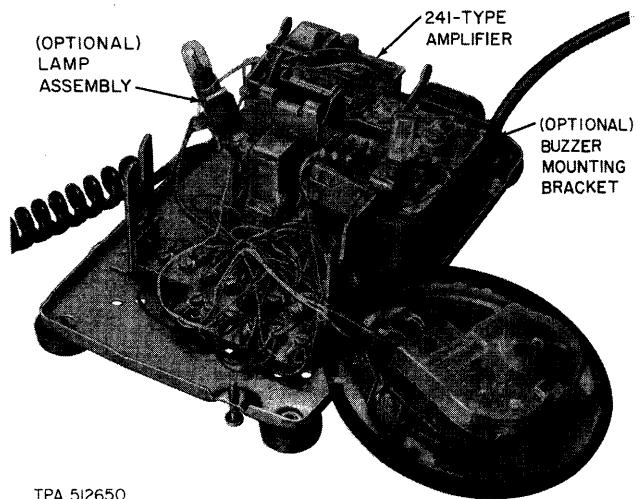

Fig. 8—514B (MD) Telephone Set, Interior View
- (3) Install bracket at location shown in (Fig. 8) and attach 812753895 (P-27E389) (bayonet base) or 811312644 (P-13A264) (screw base) lamp socket assembly to bracket arm.
- (4) Install KS-19527L1 lamp (ordered separately) in bayonet type socket and appropriate lamp for power supply used when screw type socket is installed.
- (5) Make necessary connections in accordance with appropriate connection section.
- (6) Install 811151000 (P-11E100) lamp cap assembly on housing of set.